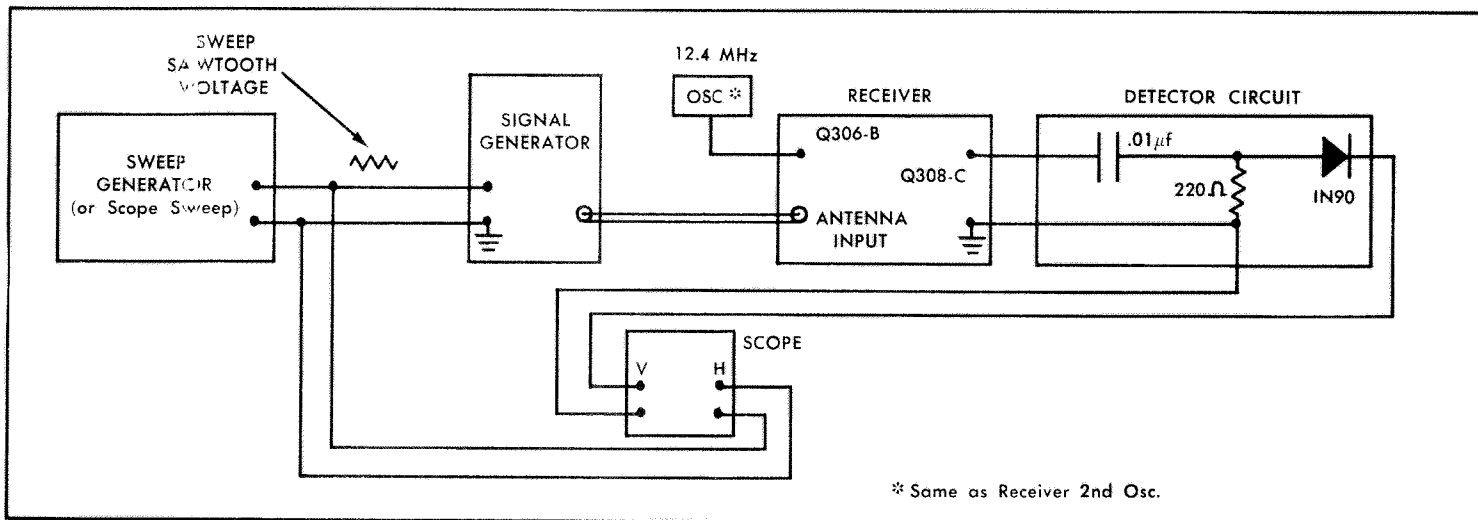

Figure 17 - High and Low IF Filter TEST Circuit
- For Alignment steps 4 thru 8 - Oscilloscope, sweep generator, 21.4 MHz marker generator and construct a detector circuit (see Figure 17 for circuitry).
Disable the 2nd oscillator by grounding base of Q307 through a .01 µf capacitor. Connect scope, signal generator and detector as shown in Figure 17. Sweep RF ±50 kHz at 20 Hz. Connect 12.4 MHz marker to base of Q306. Tune C357 and C360 for scope pattern shown. Keep marker signal centered between humps and signal level below saturation.